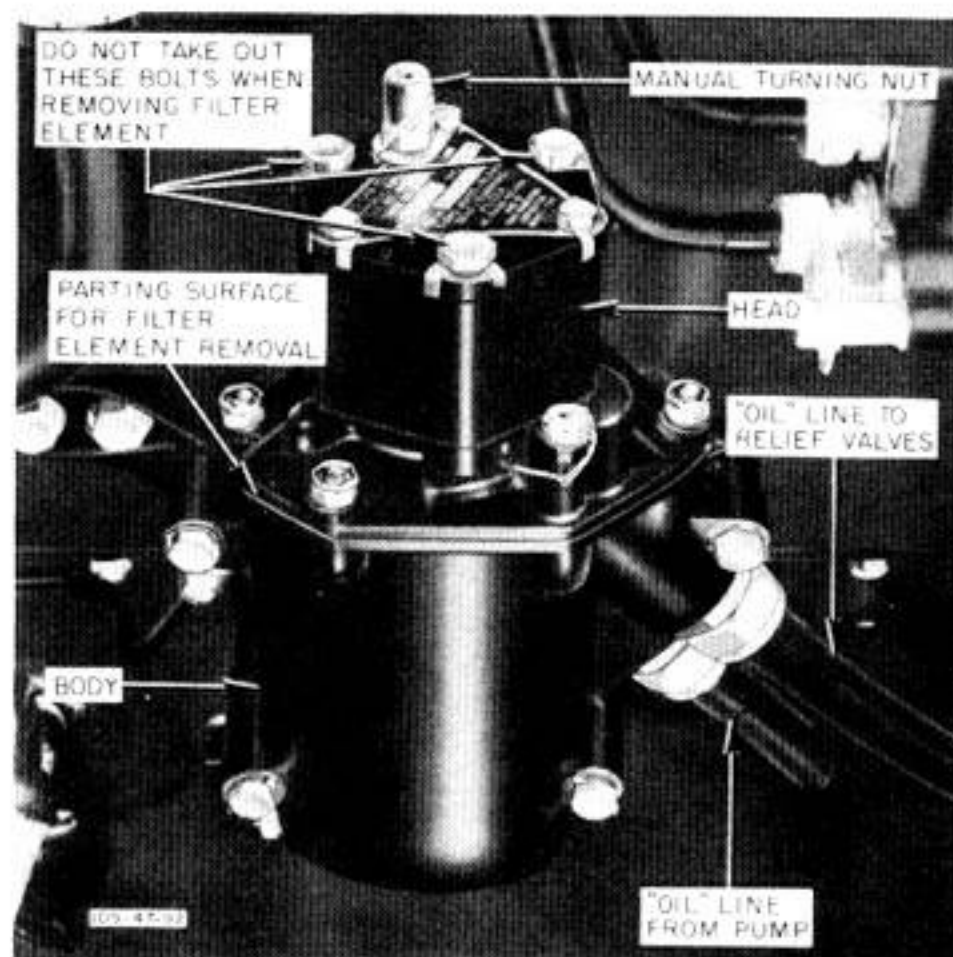

Figure 270—Cuno Oil Filter
f. OIL FILTER. (See figure 270.)
(1) DESCRIPTION.—The engine is equipped with a full-flow, disc-type filter having self-cleaning discs which are automatically rotated by the built-in hydraulic turning motor. A built-in relief valve permits oil to by-pass when a predetermined pressure drop within the filter is exceeded.
(2) REMOVING OIL FILTER.—Remove the two elastic stop nuts next to the crankcase, the capscrew, and the three plain nuts which hold the hydraulic motor head and cartridge to the filter housing.